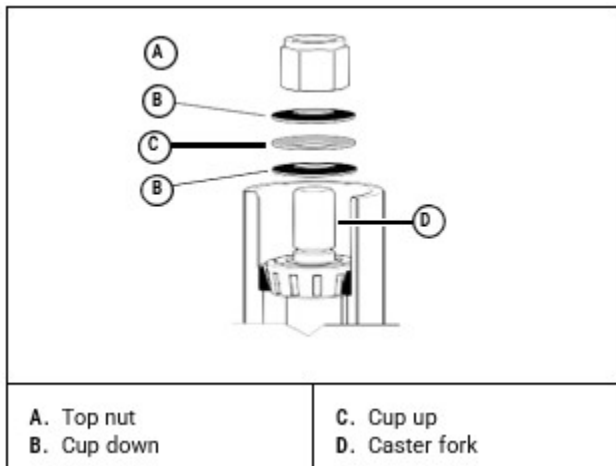

Figure 34
IMPORTANT: Stack the cup washers as shown in [Figure 34].
12. Torque the top nut to 40 ft-lbs (55 N•m), then back off 1/4 turn. Figure 34